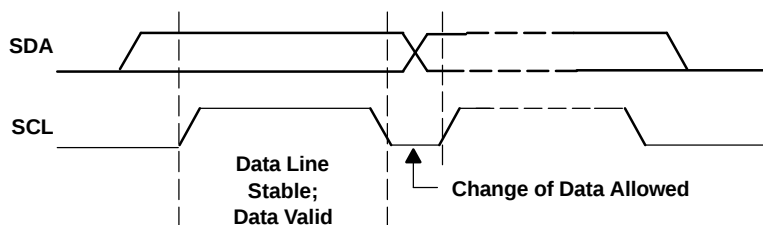
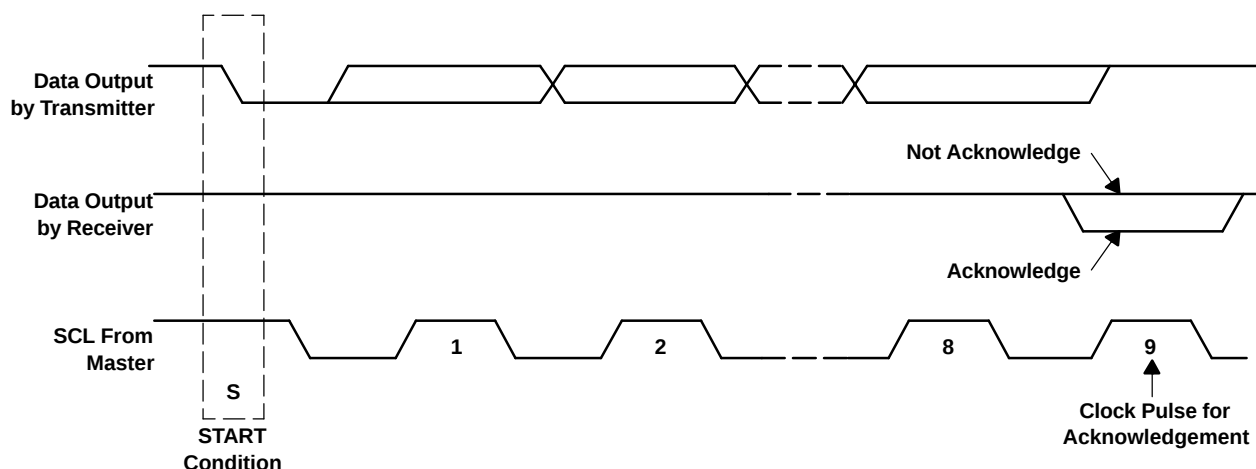

Figure 30. Bit Transfer on the I²C Bus
Figure 31. Acknowledge on the I²C Bus
- The master then generates the SCL pulses, and transmits the 7-bit address and the *read/write direction bit* $R/\overline{W}$ on the SDA line. During all transmissions, the master ensures that data is *valid*. A *valid data condition* requires the SDA line to be stable during the entire high period of the clock pulse (see Figure 30). All devices recognize the address sent by the master and compare it to their internal fixed addresses. Only the slave device with a matching address generates an *acknowledge* (see Figure 31) by pulling the SDA line low during the entire high period of the 9th SCL cycle. Upon detecting this acknowledge, the master knows that communication link with a slave has been established.